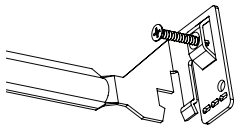

fig. 1 (optional)
- a. If ceiling thickness is $\frac{3}{4}$ " (19.05 mm) or greater: Use pliers to break off the tabs at the end of both nailer bars. (see fig. 1)